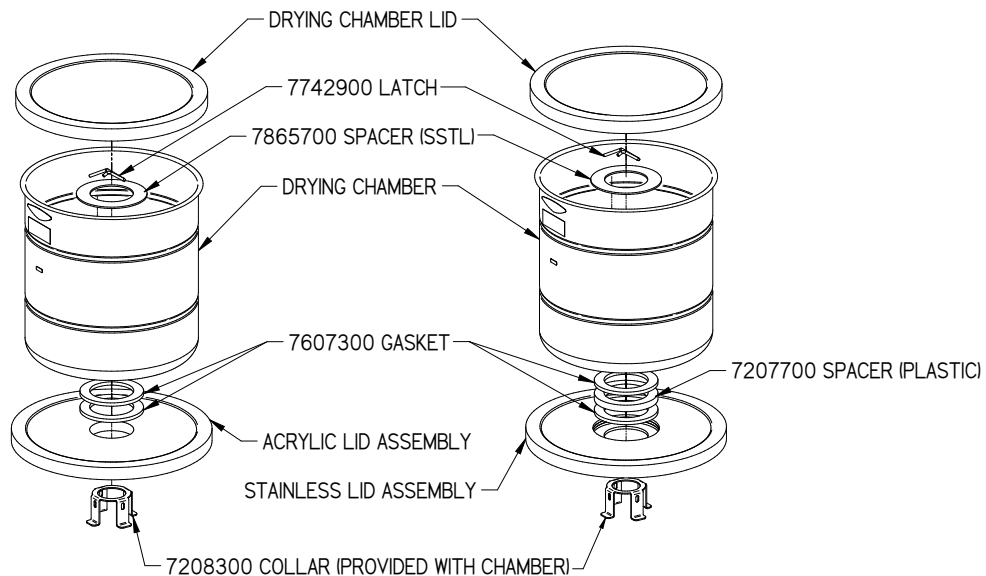
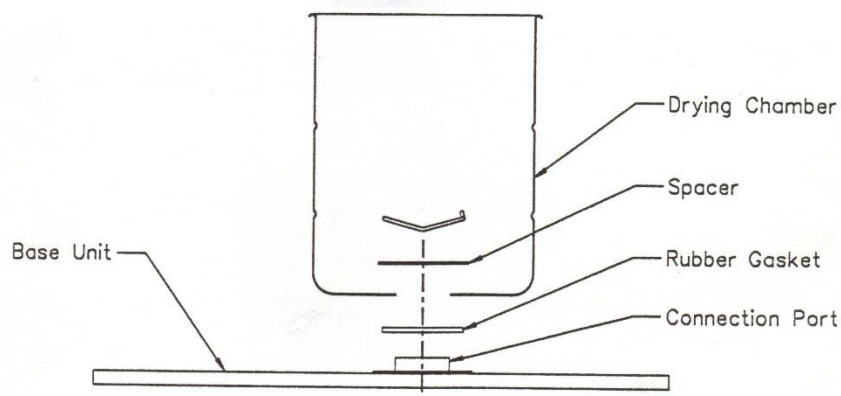
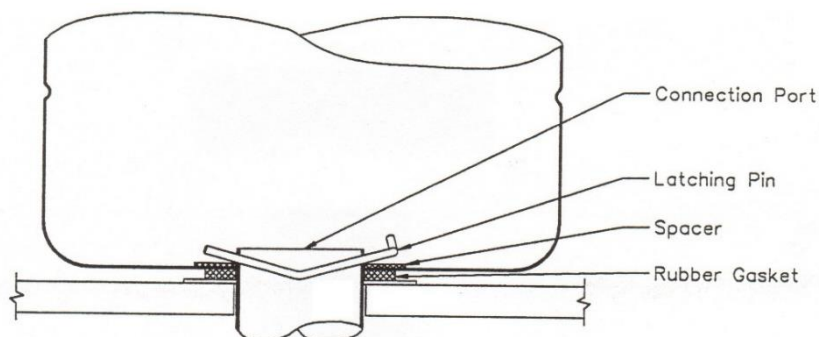

Figure 1
Figure 2
Figure 3
Place the collector chamber lid onto the collar (Figure 1). **For an acrylic lid**, place two gaskets and the drying chamber onto the top side of the collector chamber lid. **For a stainless steel lid**, place a gasket, plastic spacer, gasket, and drying chamber onto the top side of the collector chamber lid. Place the stainless steel spacer onto the collar inside the drying chamber. Insert the latch pin in a similar fashion to that shown in figures 3 & 4 (page 2).
1. Place the rubber gasket, drying chamber, and spacer on the connection port of the base unit as shown in Figure 2. The collar (7208300), shown in Figure 1, is not used with the connection port.
1. Insert the latch pin into the holes in the connection port with the angle of the pin pointing down as shown in Figure 3.